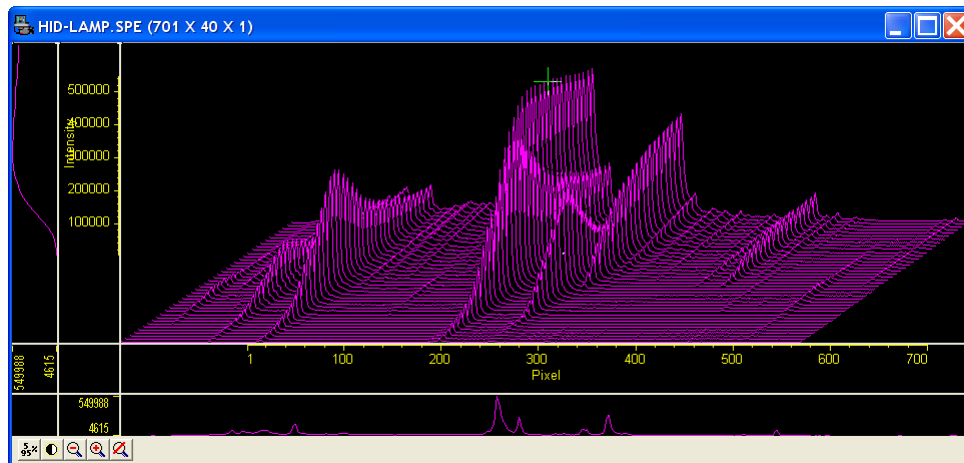

Figure 56. *Hid-lamp.spe* 3-D Graph
6. Click on **OK**. The **Display Layout** dialog will close and the data display, exclusive of the intensity profiles, should appear as shown in Figure 56. Each strip is displayed as a plot of intensity vs. pixel number. The first strip is at the front and the last strip is at the back. Initially the cursor will be at the lower left. Use the up arrow key to move to a higher numbered strip and the right arrow key to move to a higher numbered pixel on the strip. Then click the Intensity Autoscale key to scale the intensity profiles. *Note that clicking the mouse button at different points on the display will change the pixel selection but not the strip.*
8. Note the cross-sectional displays in Figure 56. The vertical cross-section profiles the intensity at the same point on each successive strip. The horizontal cross-section profiles the intensity at each point on the same strip. If the large cursor is selected, cursor projections will intersect the cross section to show indicate the cursor position. These projections may not be visually aligned with the cursor position on the main plot. This effect will be particularly noticeable with a long Z axis. Because of perspective effects, the higher numbered strips will be further away and visually smaller. The axes automatically adjust so that they read true for the strip on which the cursor is located. However, because the cross-section profiles expand to use all of the available space, they will not be in alignment visually with the cursor. The profile shapes will be correct, and the point on the profiles intersected by the large cross-hair extensions will accurately indicate the cursor position. Also, the information box will accurately report the pixel number and intensity at the cursor position.